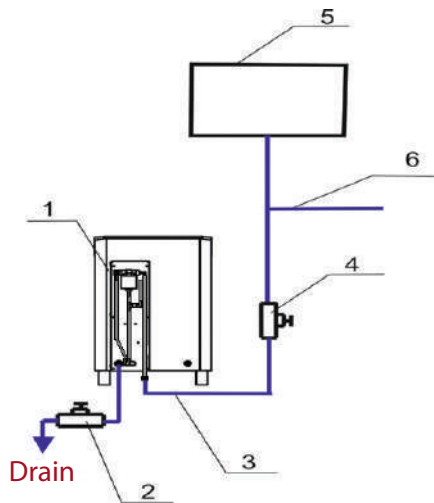
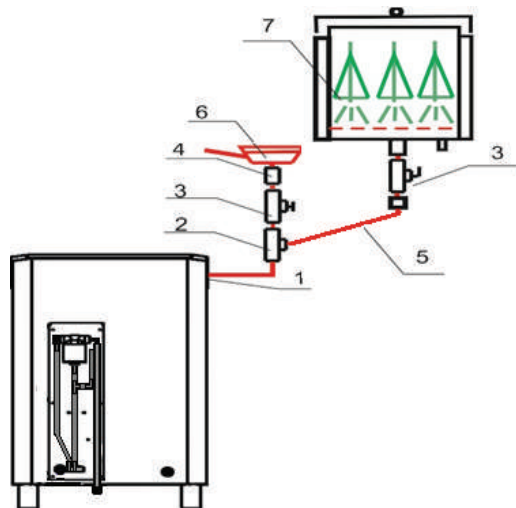

Fig. 7
Fig. 8
2.1.2.5 Connect the EH (no. 1, Fig. 7) using a flexible hose (no. 3 Fig. 7) to the water supply system (no. 6, Fig. 7) or storage tank (no. 5, Fig. 7) in an adjacent room. We recommend to install the storage tank at the height of at least 1 m from the EH top. Before the EH, a shutoff valve (no. 4, Fig. 7) shall be installed. Install the water drain valve (no. 2, Fig. 7) using a flexible piping of a required length. To prevent lime deposits, the water hardness shall be 0.5° to 5°F. We recommend to use a special demineralization unit (reverse osmosis).
2.1.2.8 Optionally, the herbal steamer and/or besom steamer can be connected to the Electric heater according to the connection diagram (Fig. 8). Connect the herbal steamer (no. 6, Fig. 8) using a valve (no. 3, Fig. 8) or the besom steamer (no. 7, Fig. 7) using a corrugated stainless steel pipe (no. 5, Fig. 8) to the steam bleeding pipe (no. 1, Fig. 8). For the simultaneous use of the herbal steamer and besom steamer, use a T-joint (no. 2, Fig. 8).
2.2.2.1 Close the drain valve or insert the plug (no. 2, Fig. 7) and open the filling valve (no. 4, Fig. 7).
2.2.2.5 After the Electric heater use, to prevent deposits in the steam generator tank, drain the water from the system. Close the filling valve (no. 4, Fig. 7) and open the drain valve (no. 2, Fig. 7). Wait till the system is completely empty. Leave the valves in this position till the next Electric heater use. Always drain the water, if the risk of its freezing is available!